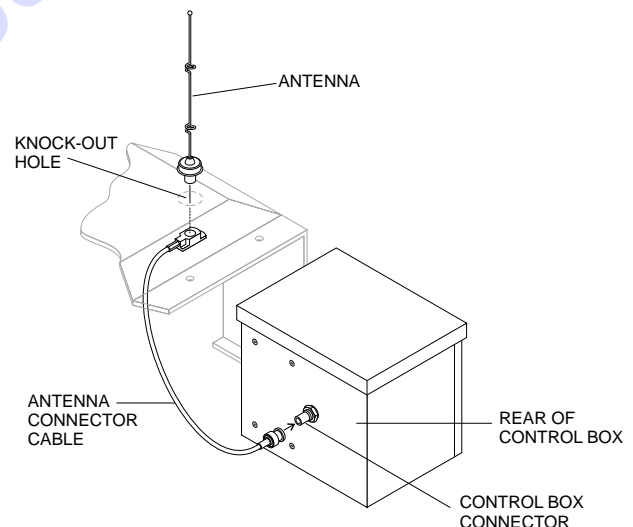

Figure 33. Antenna Installation
5. On the top of the unit, to the right of the control box (Figure 33), hammer out the knock-out hole and install the remote antenna.
6. Connect the antenna cable to the connector on the rear (Figure 33) of the control box.